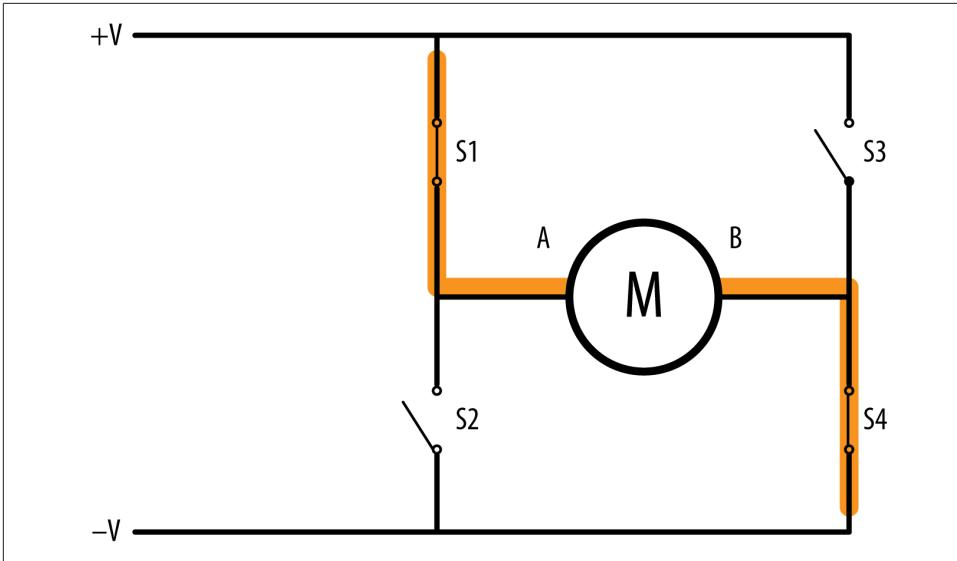

Figure 11-11. An H-Bridge
**Figure 11-11** shows how one works, using switches rather than transistors or a chip. By reversing the polarity across the motor, an H-Bridge also reverses the direction the motor turns.
In **Figure 11-11**, S1 and S4 are closed and S2 and S3 are open. This allows current to flow through the motor, with terminal A being positive and terminal B being negative. If we were to reverse the switches so that S2 and S3 are closed and S1 and S4 are open, then B would be positive and A would be negative, and the motor would turn in the opposite direction.